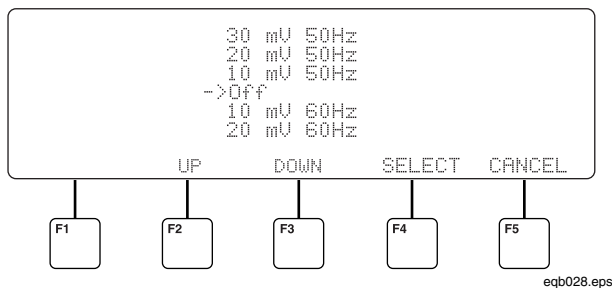

Figure 26. Immunity Test
- To test immunity simultaneously with other testing, press **SELECT NOISE (F2)** from the Main menu. The options shown in Figure 26 appear.